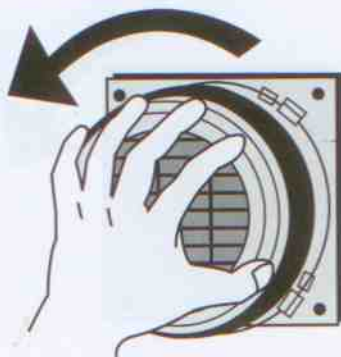
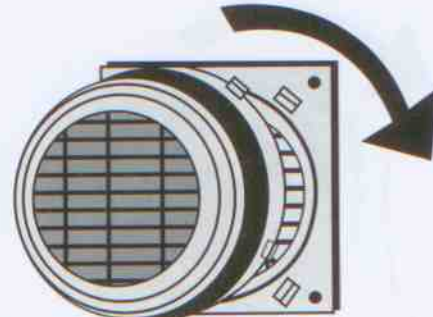

FIG. 6
FIG. 7
9. This ventilator can be easily released off by twist anti-clockwise (see fig 6), for cleaning dust after long period running. To fix the unit by twisting clockwise into the 4 slots (see fig 7).